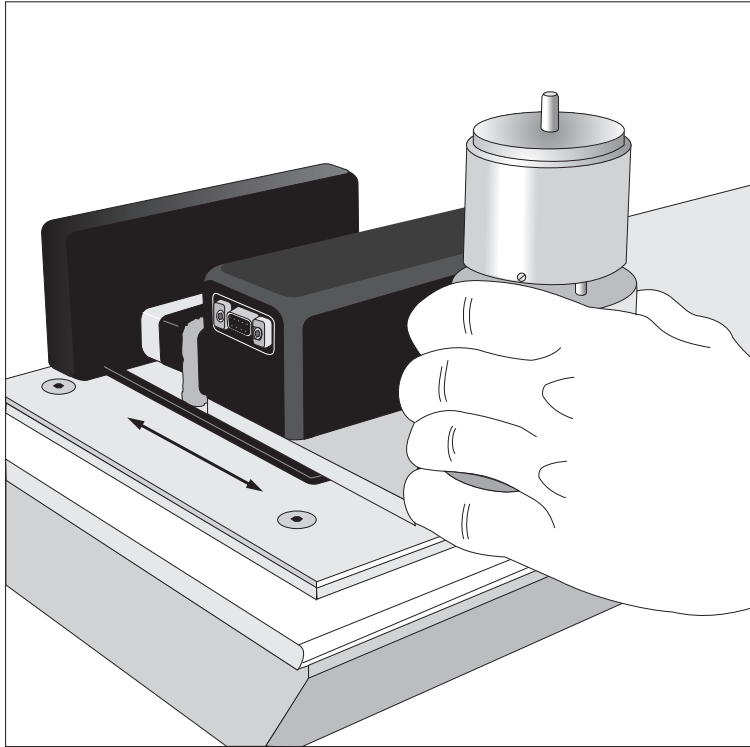

Figure 2.11
3. Slide the DSC Cell onto the instrument following the alignment guides (see Figure 2.11) until the connectors plug into the instrument.